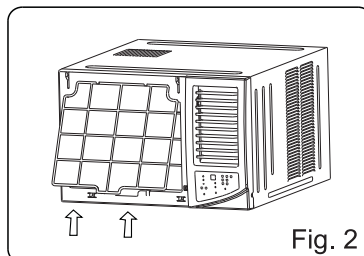

Fig. 2
2. Pinch the handle under the air filter and make the air filter arched, remove it from the slot from underside to upside (See Fig.2).
1. Install the air filter into the frame's slot from upside to underside (See Fig.2).